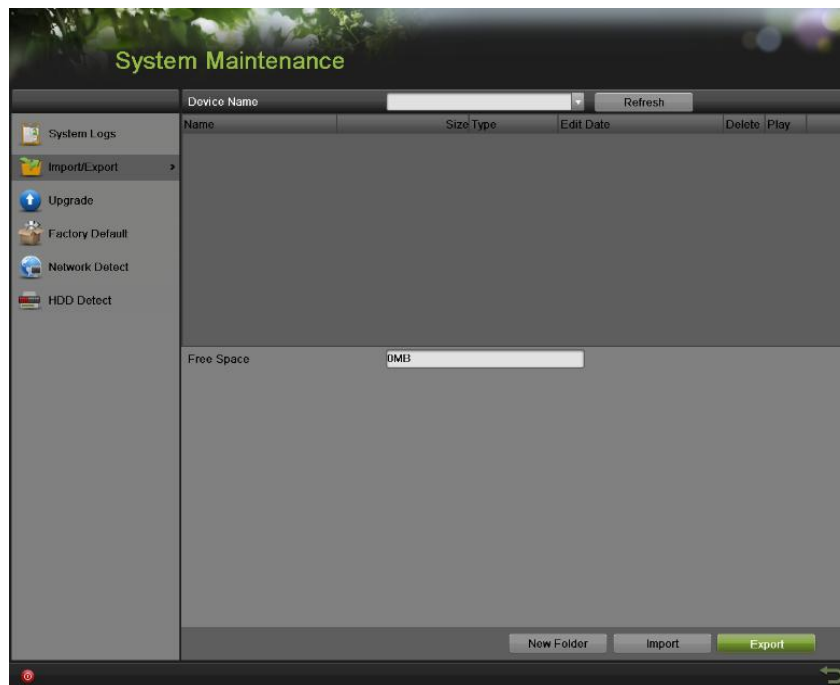

Figure 143 Import/Export Menu
8. Enter the Import/Export menu, shown in Figure 143 by going to Menu > Maintenance > Import/Export.